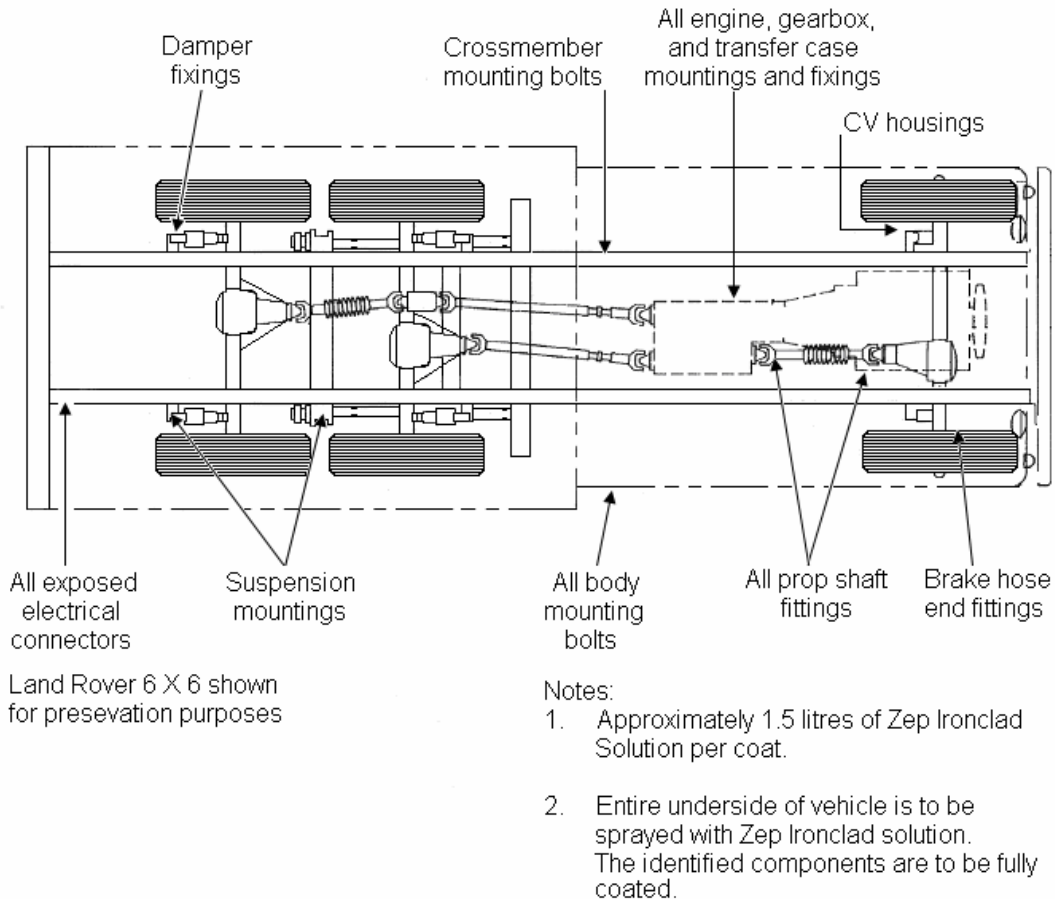

Figure 1 Under-Body Treatment Of Land Rover 110 Variants With Zep Ironclad
- c. Apply the Zep Ironclad solution to the underside of the vehicle, paying particular attention to the components identified in Figure 1.